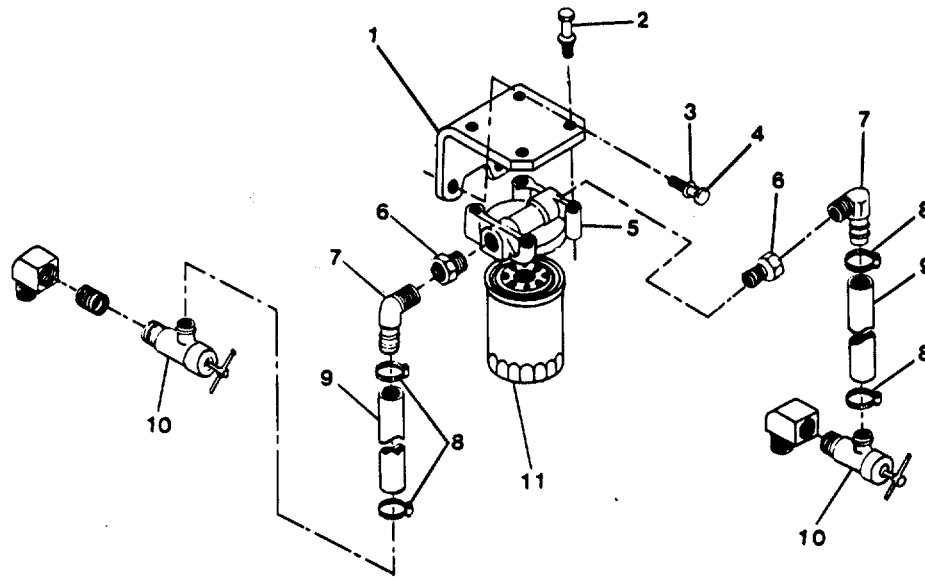

FIGURE 2-8. Water Filter Assembly.
## 2-27. Replace/Repair Water Filter Assembly. (Figure 2-8)
- (1) Remove the radiator or fill cap on the remote mounted expansion tank (TM 55-1905-223-24-18).
- (2) Close the water inlet and outlet angle valves (10, Figure 2-8) on each side of the water filter head assembly (5).
- (3) Remove the fluid filter (11) with a filter wrench.
- (4) Clean the gasket sealing surfaces of the filter (11) and head (5) with a lint-free paper towel.
- (5) Position filter (11) onto head (5) and hand tighten filter (11) until the sealing gasket touches head (5), then hand-tighten an additional 1/2 to 3/4 turn.
- (6) Install the radiator or fill cap on expansion tank (TM 55-1905-223-24-18).
- (7) Open angle valves (10).
- (8) If leakage is still present, replace filter (11), and recheck.
- (9) If the new filter element (11) still leaks, replace the fluid filter head assembly (5). Refer to removal and replace steps.
- d. Check nonmetallic hoses (9) for signs of cracks or damage. Replace as required.
- e. Tighten hose clamps (8) to 35-40 in-lb.
- b. Close the water inlet and outlet angle valves (10, Figure 2-8).
- c. Remove fluid filter (11) with a filter wrench. Discard filter.
- d. Loosen hose clamps (8) and remove nonmetallic hoses (9).
- e. Remove the four assembled washer screws (2) that hold the fluid filter head (5) to the angle bracket (1).
- f. Remove the filter head (5).